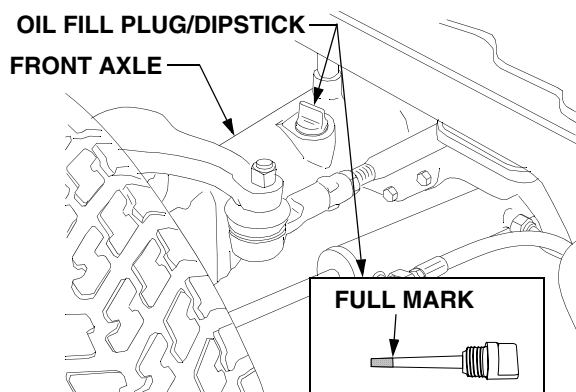

Figure 46
- The oil fill plug/dipstick is located on the *left* side of the axle housing. See Figure 46.
- Clean the area around the oil fill plug/dipstick to prevent debris from entering the axle housing. See Figure 46.
- Withdraw the dipstick and wipe it clean, then reinsert and screw in all the way. Unscrew and withdraw again to read the oil level. Always keep the oil level between the bottom and the full mark of the dipstick (See Figure 46).
- To prevent debris from entering the front axle housing, clean the area around the oil fill plug/dipstick and the axle drain plug located at the center front of the axle. Refer to Figure 46 and Figure 48.